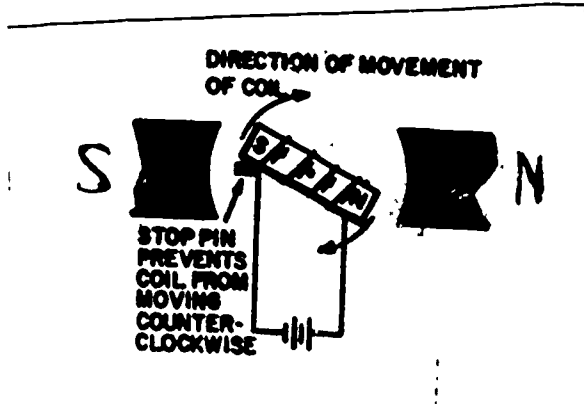
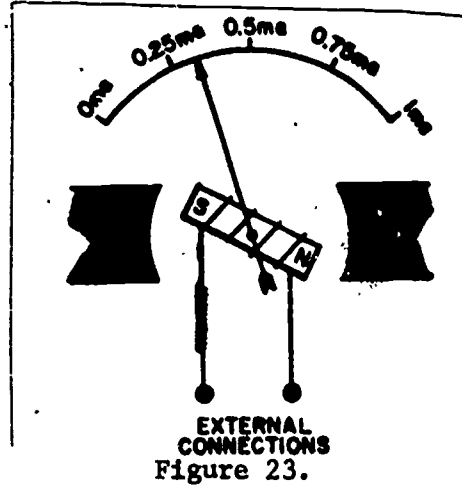

Figure 22.
Figure 23.
If an electromagnet is mounted on a pivot between the poles of a permanent magnet as in figure 22, as current flows through the coil, the poles of the electromagnet will be repelled by the poles of the permanent magnet. The more current that is flowing through the coil, the more the electromagnet will turn. If a needle is attached to the coil as in figure 23 below, and a calibrated scale is added, we can measure the amount of current flowing in the coil.
1. In figure 22 the electromagnet is attracting the permanent magnet.
2. The coil in the meter movement in figure 22 can turn in either direction.